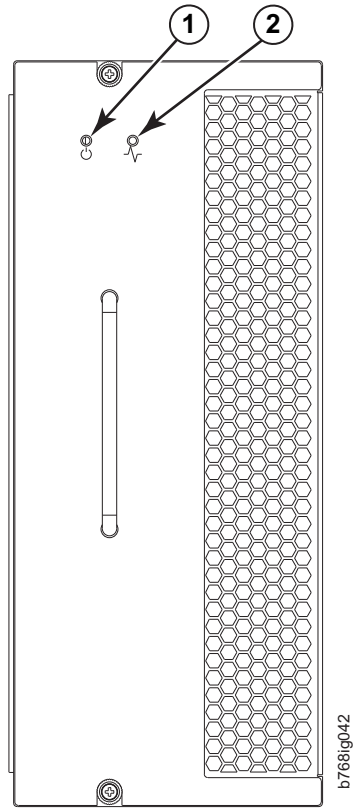

Figure 27. Blower assembly LEDs
1. Check the LED indicators on the blower assembly (see Figure 27 on page 65). The LED patterns may temporarily change during POST and other diagnostic tests; for information about how to interpret the LED patterns, see Table 10 on page 65.